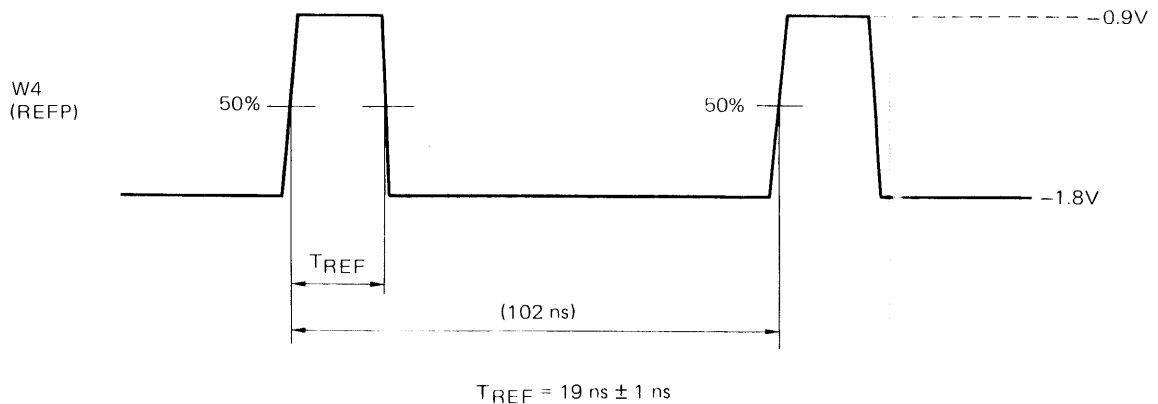

Figure 6-6-9 Reference Pulse Adjustment
7. Select the proper capacitance as shown in Figure 6-6-9 so that the frequency of W9 is closest to 19.664 MHz.